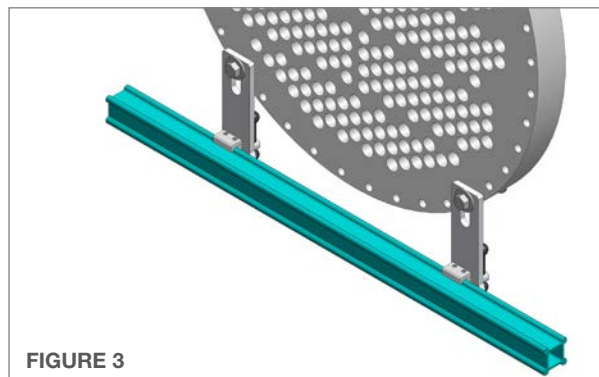

FIGURE 3
3. Insert the **Lower Rail (non-slotted)** into the lower mounting brackets. It is not critical that this rail is aligned as precisely as the top rail, but it should be close to parallel with the top rail for best performance. Tighten the clamps securing the rail to the mounting brackets, and ensure lower mounting brackets are securely clamped or bolted to the tube bundle flange. **(Figure 3)**